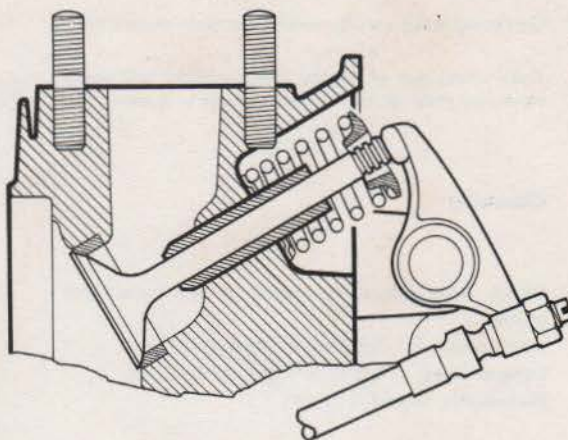

Fig. 5
- 2) The valve springs are progressively wound. The narrower turns point to the cylinder head. Ensure the washers are fitted before adding the spring (fig.5)